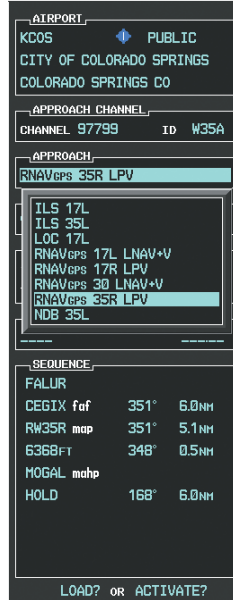

Figure 5-132 List of Available Approaches
c) Press the ENT Key. A list of available approaches for the destination airport is displayed as in Figure 5-132.
d) Turn either FMS Knob to select the LPV approach for 35R as shown in Figure 5-132.